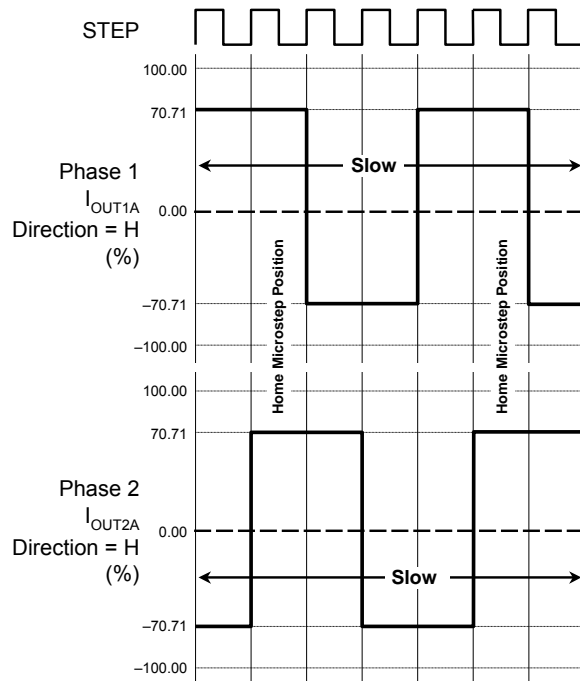

Figure 2. Decay Mode for Full-Step Increments
At power-on or reset, the translator sets the DACs and the phase current polarity to the initial Home state (shown in figures 2 through 5), and the current regulator to Mixed Decay Mode for both phases. When a step command signal occurs on the STEP input, the translator automatically sequences the DACs to the next level and current polarity. (See table 2 for the current-level sequence.) The microstep resolution is set by the combined effect of inputs MS1 and MS2, as shown in table 1.
**RESET Input (RESET).** The RESET input sets the translator to a predefined Home state (shown in figures 2 through 5), and turns off all of the DMOS outputs. All STEP inputs are ignored until the RESET input is set to high.